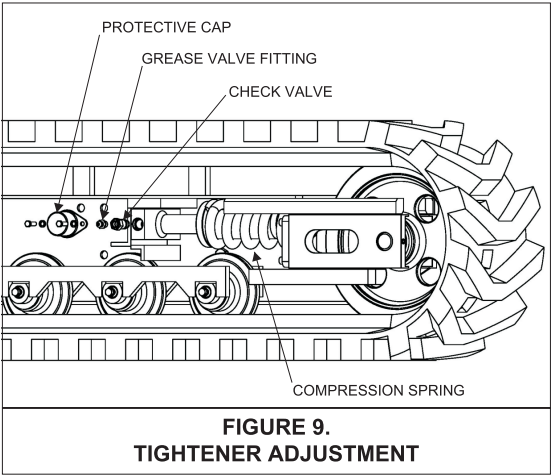

FIGURE 9.
1. Remove the protective cap from the grease valve. See figure 9.